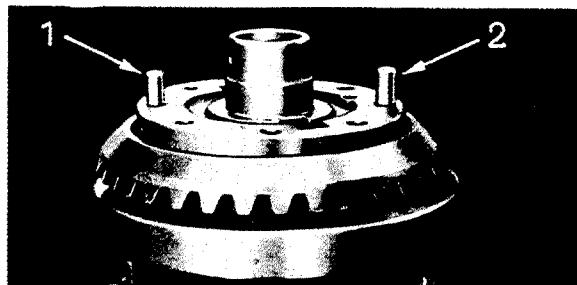

Fig. H 3a/25
25. If a new ring gear is mounted on the differential housing, the bore of the ring gear and the seat on the differential housing must be carefully cleaned. Heat the ring gear to 60° C (140° F) and place on differential housing using the two pilot pins 1 and 2 (Fig. H 3a/25). If the ring gear does not fall